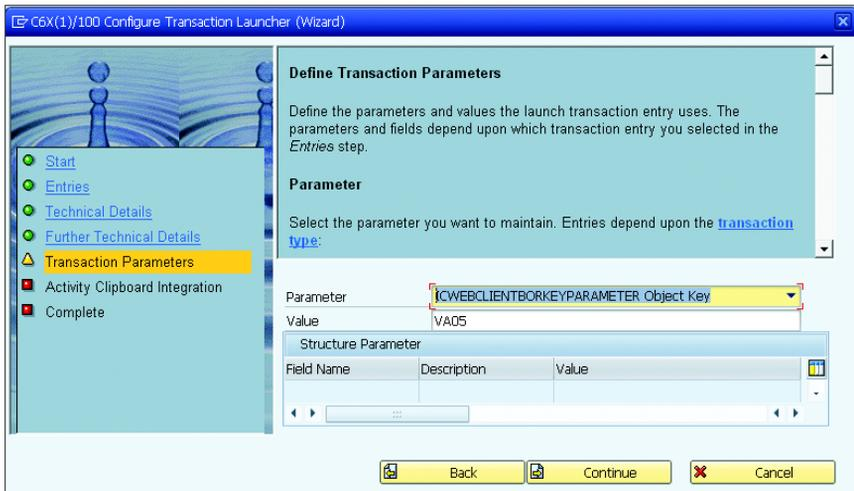

Figure 8.50 Defining Transaction Parameters
5. Define the transaction parameters by selecting the PARAMETER as ICWEBCLIENTBORKEYPARAMETER OBJECT KEY and entering the transaction code ("VA05", for this example) that you want to launch in SAP ERP (see Figure 8.50). Click CONTINUE.